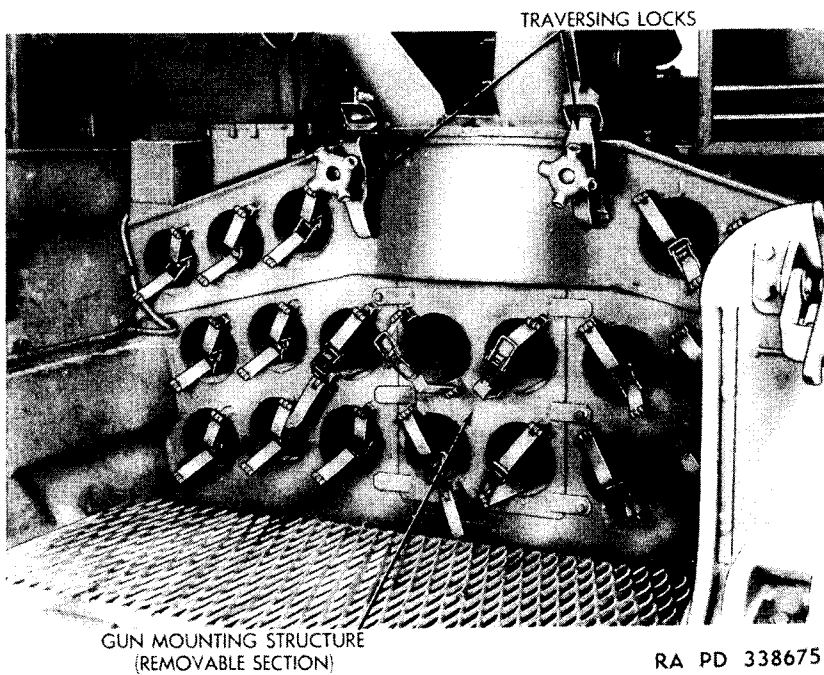

Figure 78. Gun mounting structure removable section (M41).
e. REMOVE GUN MOUNTING STRUCTURE REMOVABLE SECTION. Remove the six cap screws and lock washers which secure the removable section (fig. 78) and remove from the vehicle. Disengage the traversing locks.
c. **INSTALL GUN MOUNTING REMOVAL SECTION.** Slide the removable section into place under the bottom carriage in rear compartment of vehicle (fig. 78).